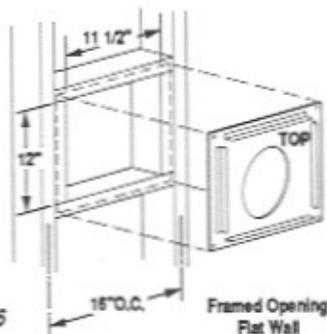

Figure 6
**Step 4.** Install the outside firestop assembly into prepared framed opening (Figure 6).